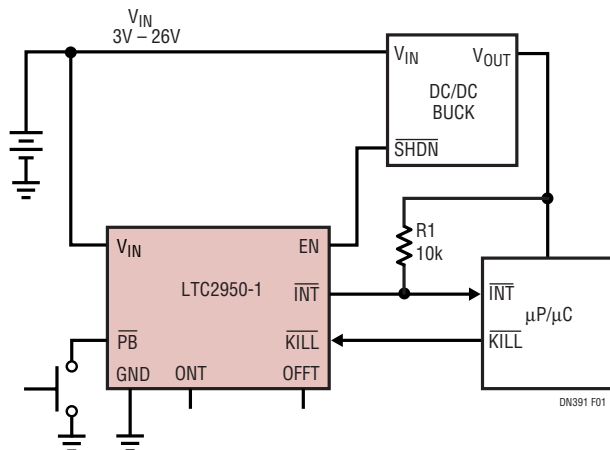
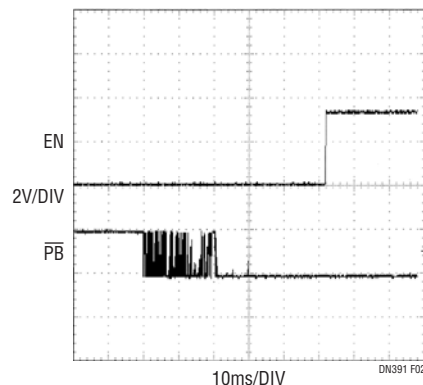

Figure 1. Typical Application with One External Component
Figure 2. Turn On De-Bounce Timing
The circuit in Figure 1 provides manual control of the shut-down pin of a DC/DC converter. To turn on the converter, the LTC2950 first de-bounces the pushbutton input and then releases the low leakage enable (EN) output. The turn on de-bounce time defaults to 32ms and is extendable by placing an optional capacitor on the ONT pin. This allows the handheld designer to adjust the length of time the user must hold down the pushbutton before turning on power to the device. The timing of Figure 2 illustrates performance with a noisy  $\overline{\text{PB}}$  pin.